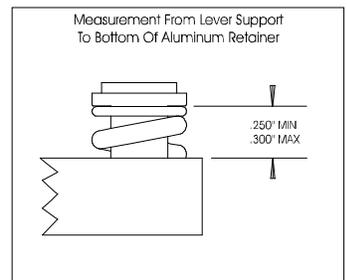

Fig 3 Compression Spring Adjustment Limits
10. Set spring adjustment at .300". (Figure 3)
3. Keep the spring adjustment within limits (Figure 3).
(Figure 3) Do not adjust the springs below .250" or they will coil bind (bottom out) before the clutch can hook up solid. This will cause the clutch to build heat from over slipping and eventually burn up. If the limit of .250" has been reached and you still want a higher stall speed, you need to install optional stiffer springs or remove weight from levers. Be careful not to exceed the maximum adjustment limit of .300" as the adjustment screws could work loose.